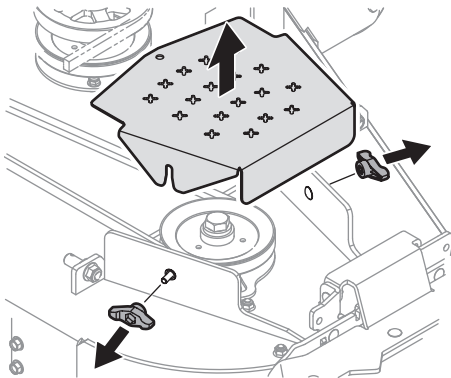

Fig. 32
- Clean the top of the mower deck, under the spindle covers and belt area (Fig. 32).